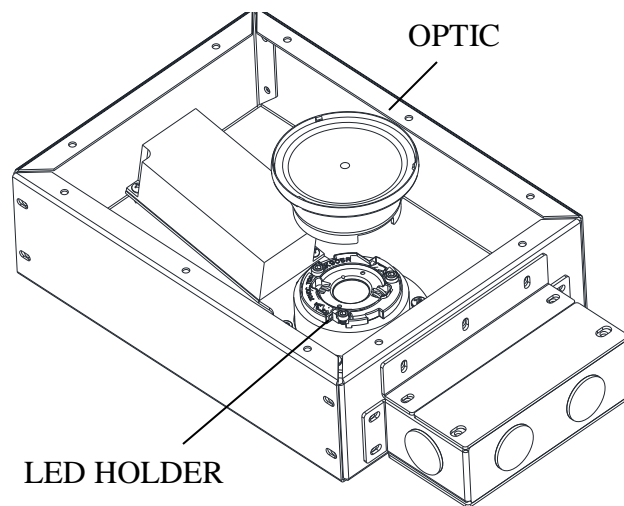

FIG 3
7. Choose the appropriate optic snap it into the optic holder and twist lock it into the LED holder **(FIG 3)**